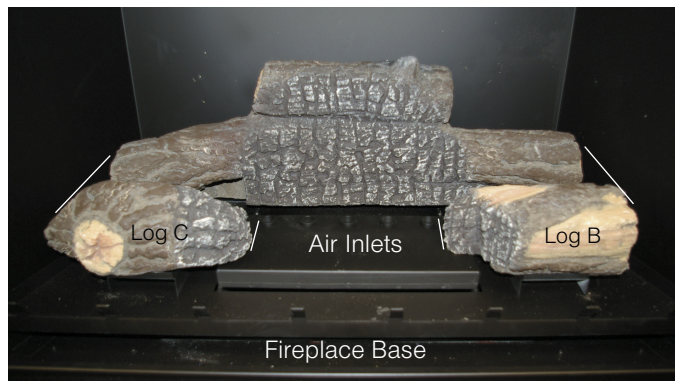

Figure 27b. Left front Log, (Log C) and Right front Log, (Log B).
Step 3. Place the bottom Right log (Log B) and bottom Left Log, (Log C) as shown in **figure 27b**.